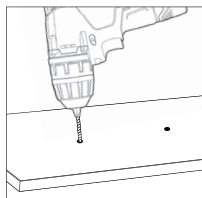

Figure 2
7. Drill holes appropriate for hardware being used and the mounting surface (Figure 2).